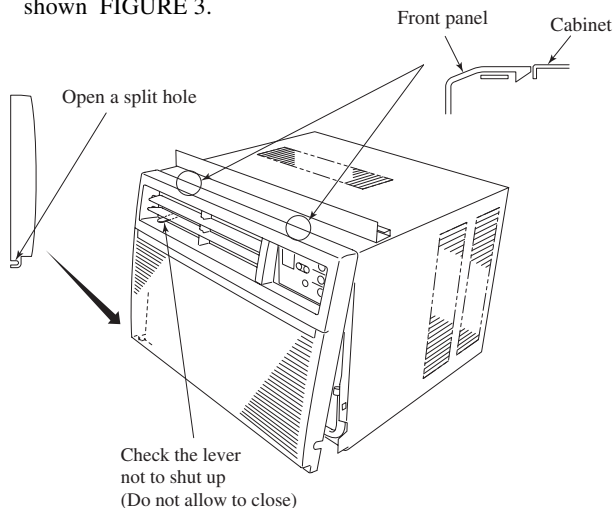

FIGURE3
- ④ Hang the pawls on the top (the parts where the front panel catches on the cabinet) FIGURE 3.
- ⑤ Placing the front panel, Check the vent lever not to shut up as shown FIGURE 3.